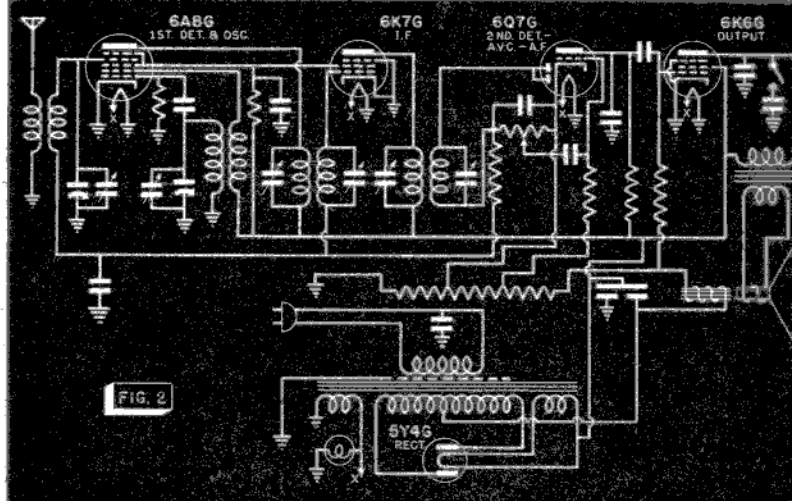

FIG. 2
The best method of stage localization to use for a dead set depends on the equipment available, and on the kind of radio. For example, a signal tracer can be used on any radio, so signal tracing is a universal method of locating the defective stage. If the set is a.c. operated, then one form of circuit disturbance can be used; another form must be used on a.c.-d.c. receivers. On some sets, one method may be better or faster than another, but the opposite may be true on other receivers. To show all the methods, let's first suppose that you are servicing a broadcast-band a.c.-operated superheterodyne of the type shown in Fig. 2. (You will study the superheterodyne in detail in your Course, so, if the
► Always begin your tests at the first audio tube; this serves at once to localize the defective *section*. In the set shown in Fig. 2, the triode section of the 6Q7 is the first audio tube. If a click or buzz is heard when you disturb it, then the audio and power supply sections are O.K.—the trouble is in the r.f.-i.f. section. In this case, disturb the i.f. tube. A click means everything is normal in the i.f. and second detector stages.